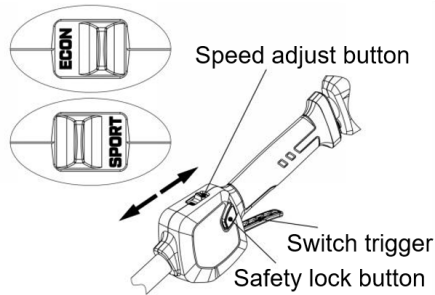

Fig. 9
2. Press down the safety lock button and then depress the switch trigger to turn on the trimmer. (Fig.9)
4. Push the button to the “SPORT” for high speed and to the “ECON” for low speed. Adjust the speed to suit the task. (Fig.9)